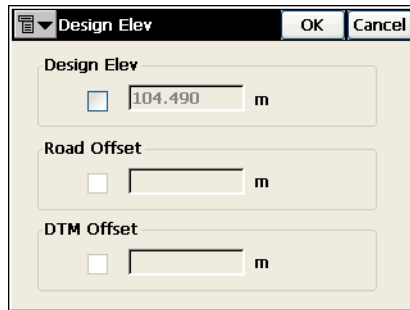

Figure 7-10. Design Elevation
- To change the elevation of the staked point, select the *Design Elev* option from the bitmap menu in the upper left corner of the *Stakeout* screen. Check the *Design Elev* box in the *Design Elev* screen to enable the field to manually edit the elevation value (Figure 7-10).